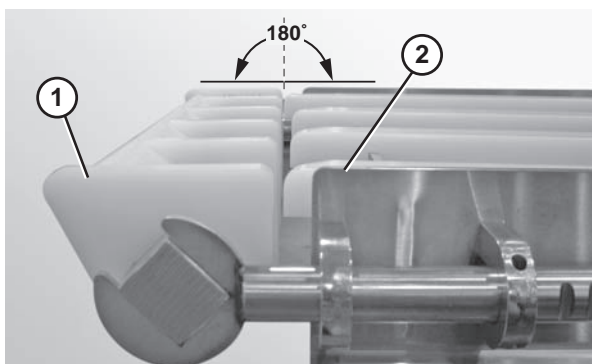

Figure 20
4. Ensure that the nose bar pucks (Figure 20, item 1) are in line with the conveyor frame (Figure 20, item 2).